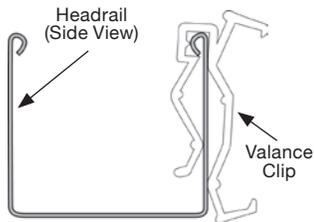

Figure 6
NOTE: If your blinds are Inside Mount (IB) you should install the valance clips onto the headrail before installing your blind into the brackets. Each blind will require the same number of valance clips as the blind has ladders. Extra clips may be provided. Install valance clips as shown (Section H, Figure 6). This may be done after the blind installation for outside mount blinds.
1. Install valance clips if they have not already been installed. Snap valance clip onto headrail as shown (Fig. 6).